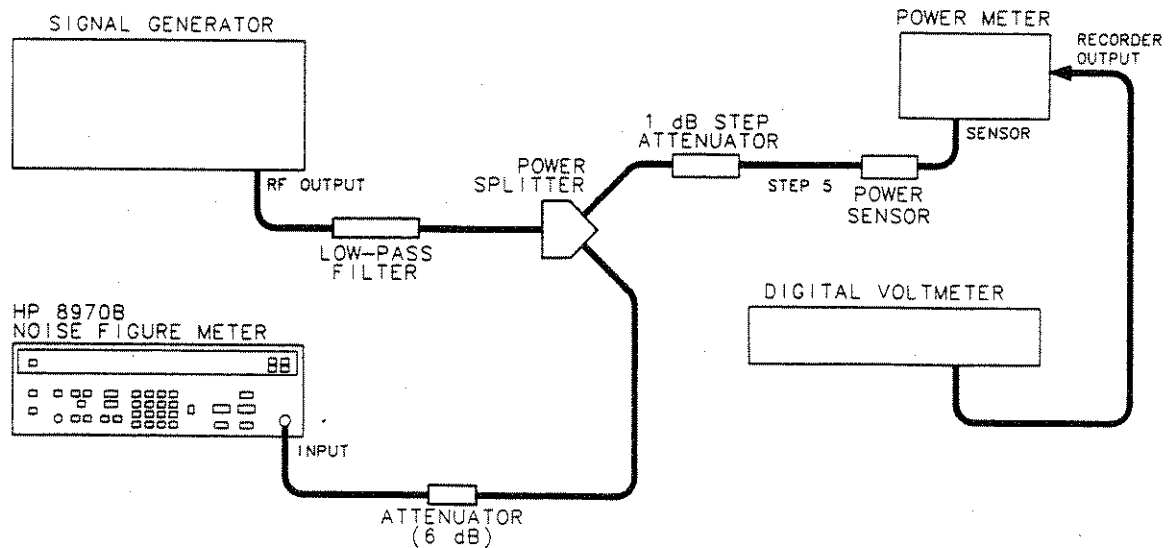

Figure 5-11. Noise Power Detector Adjustment Setup
1. Connect equipment as shown in Figure 5-11, except do not connect the power sensor to the step attenuator.
5. Zero the power meter, and set the 1 dB step attenuator to 10 dB. Connect the power sensor to the 1 dB step attenuator as shown in Figure 5-11.